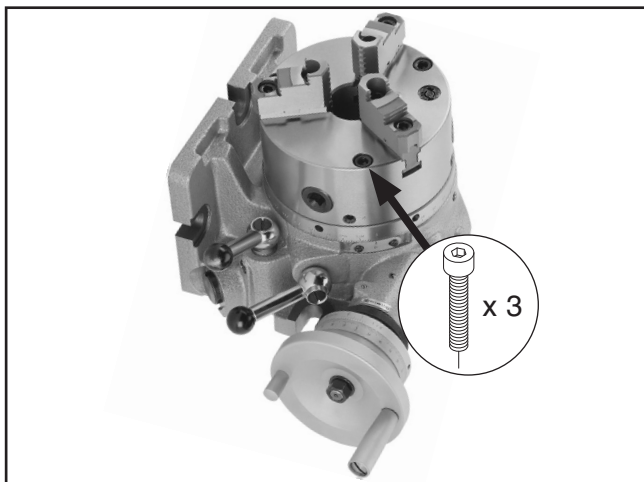

Figure 6. 3-jaw chuck installed.
3. Secure the chuck with the (3) M10-1.5 x 100 cap screws, as shown in **Figure 6**.